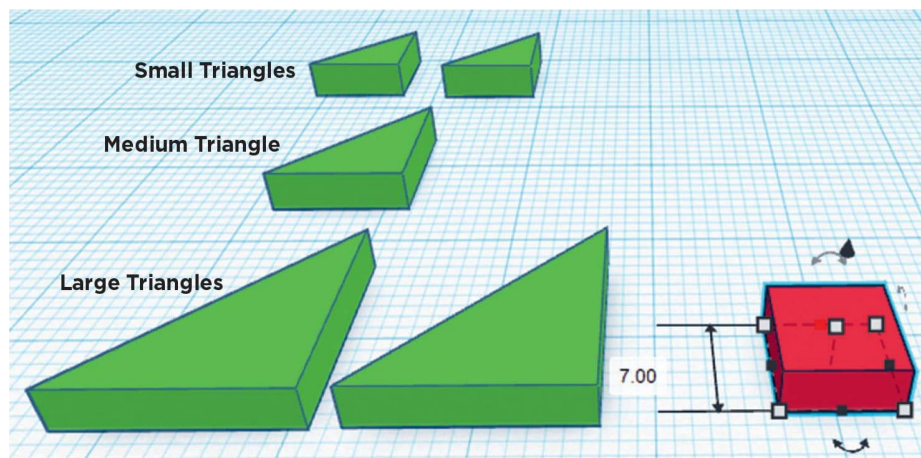

FIG. 6: The various triangles and construction of the square using the **Cube** tool.
6. Enlarge the small triangular prism so the two sides that form the right angle are 10 mm (fig. 6). Move it to one end of the workplane.
10. Enlarge the cube so that each of the sides is 7 mm (fig. 6). Move it to one end of the workplane.